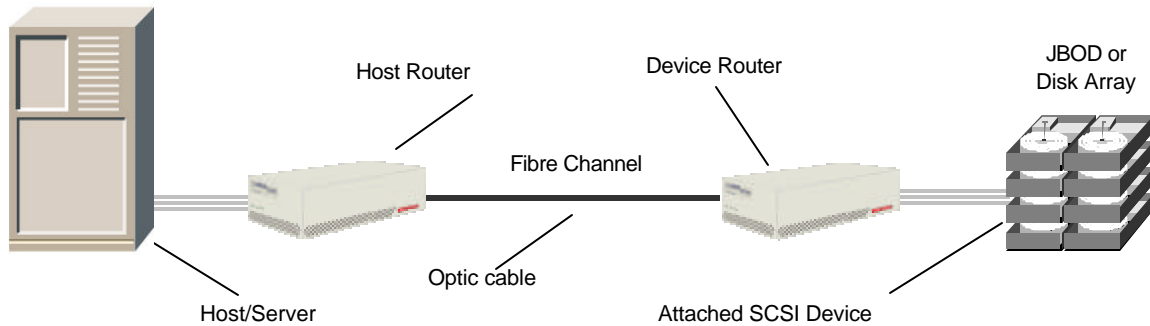

Figure 1-1. SCSI-FC Routers as a Distance Solution
Refer to the SCSI device's operating manual and ensure that it is functioning properly. The SCSI device(s) will be the device(s) (disk or tape drives) attached to the device router (see Figure 1-1).
1. Choose one of SCSI-FC Routers to be the device router, as defined in Section 1.2 and as seen in Figure 1-1. (Either router may be used as the device router.)
4. The configuration should match the diagram in Figure 1-1.